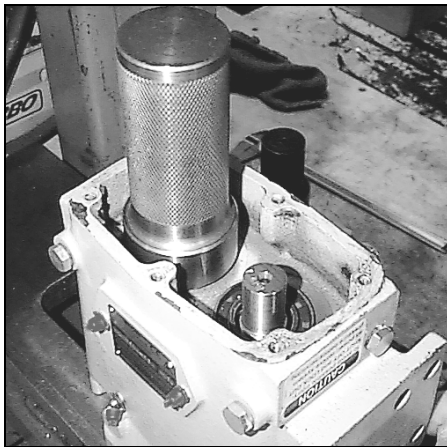

Figure 57 - Press seals into place
4. Press the seals into place. See Figure 57.